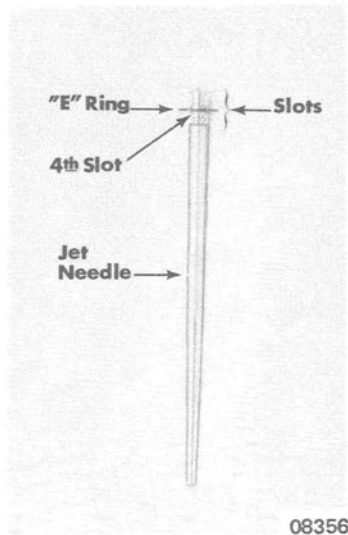

Figure 1. Carburetor Jet Needle
9. Remove fixed high speed metering rod (or high speed mixture needle, if so equipped) from carburetor. (Figure 1 or 3)
10. Remove low speed mixture needle (Figure 1 or 3), tension spring, washer and packing. Inspect point of low speed mixture needle, threads and packing for cuts or grooves. If mixture needle is damaged, carefully inspect casting.
- c. Install packing, washer, tension spring and low speed mixture needle. (Figure 1 or 3)
- d. Install fixed high speed metering rod (or high speed mixture needle, if so equipped) into carburetor. (Figure 1 or 3)
JET NEEDLE ADJUSTMENT (Figure 1)